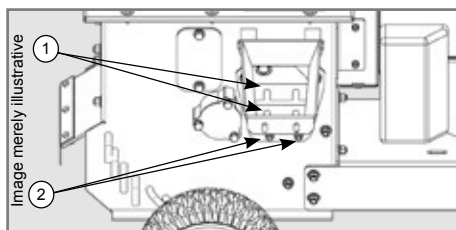

Figure 12
Shims (1) can be used separately or together, removing the funnel side entrance and slightly loosening the nuts (2) of the counter-blade and inserting them between the body and the counter-blade, according to the direction indicated in the drawing below, in Figure 12.